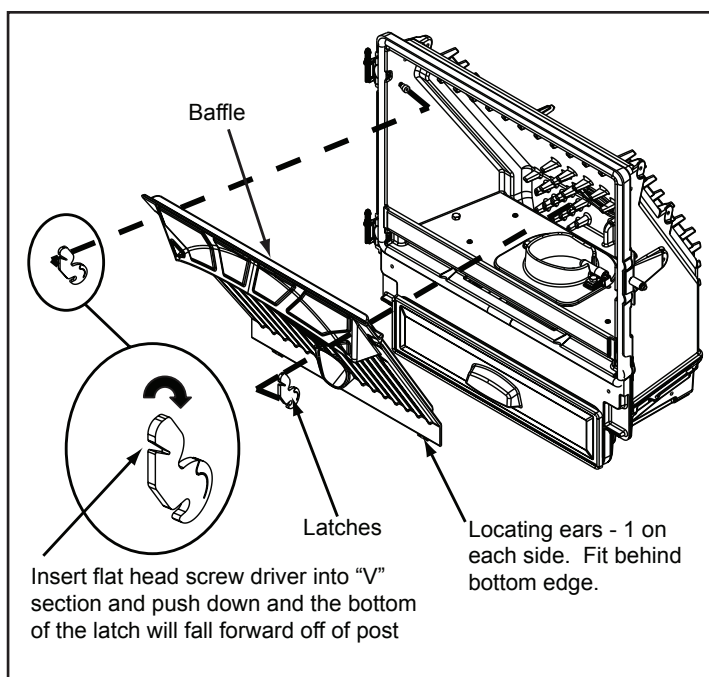

Figure 30.1
- Remove baffle by placing a flat head screw driver into the slot of the latches located in the upper corners and push down. The bottom of the latch will fall forward off of the post. Lift the baffle up and then out toward you. **Figure 30.1.**